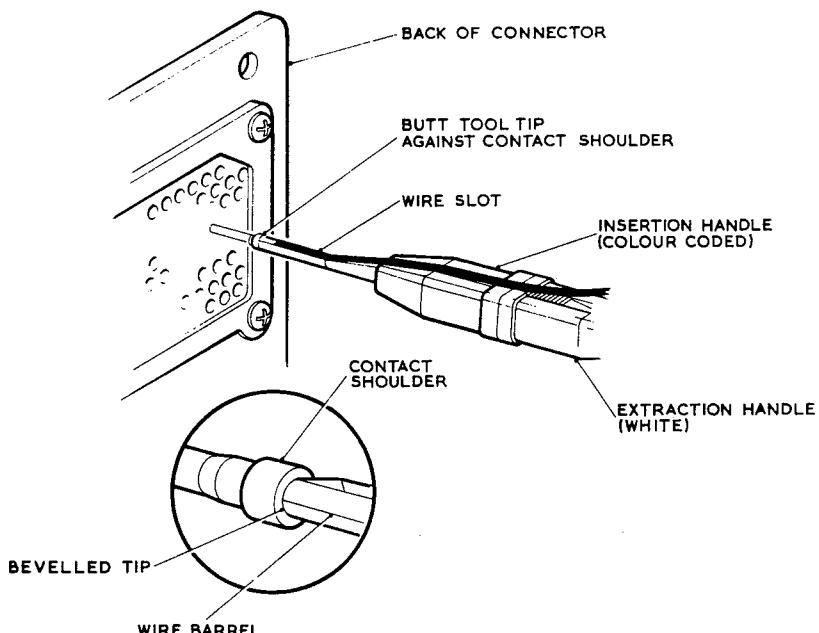

Fig.1 Contact insertion
1.4 Position the tool tip against the shoulder of the contact, see fig 1. Note that the bevelled tip is smaller than the outside diameter of the contact shoulder. This allows the locking lance in the cavity to grip the shoulder of the contact.